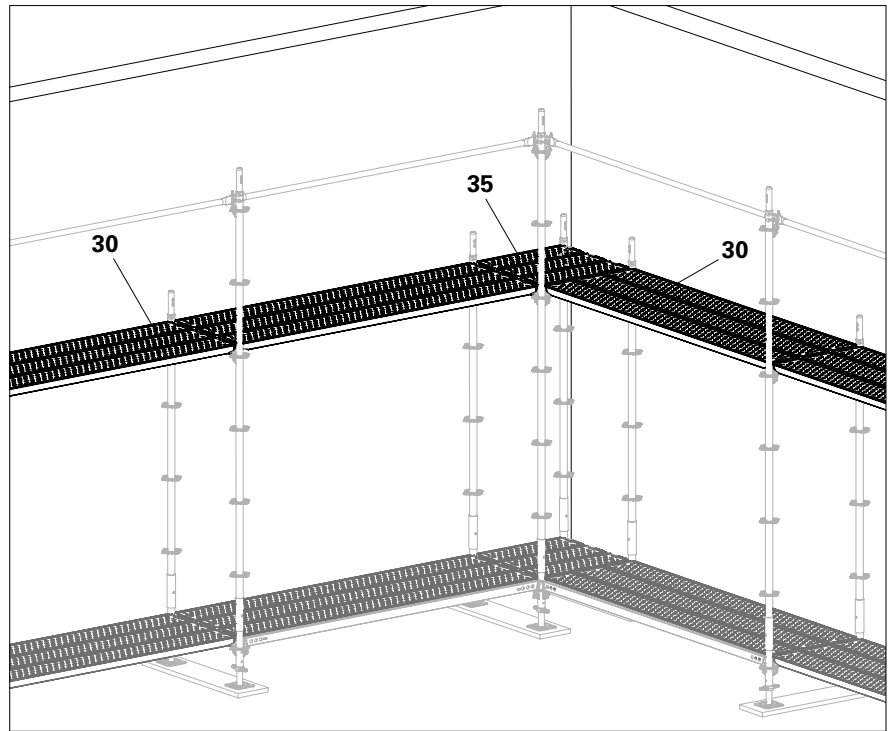

Fig. B6.11
2. Place three Steel Decks UDG-2 25x75 (**35**) in the inside corner. (Fig. B6.11)